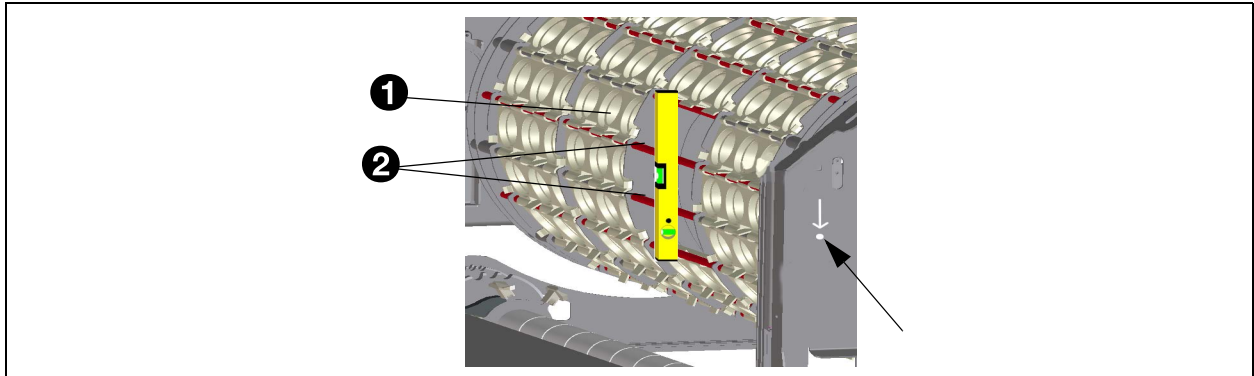
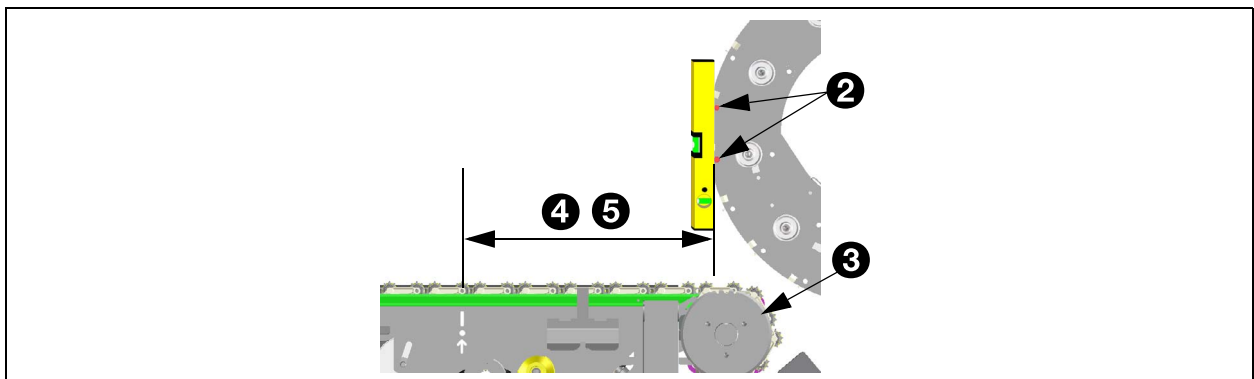

Fig. 66 - Carrier set
Fig. 67 - Distance between roller and shafts
2. Loosen the bolts of the chain-wheels (3). See fig. 67.
4. Adjust the first roller of a double roller so that it is in line with the mark on the side shield. See fig. 67 and fig. 68.
1. Remove three carrier sets(\*) (1) from the MultiDrum™. See paragraph 7.3.1.
- Two shafts (2) are released.
2. Position a water level against the shafts. See fig. 66 and fig. 67. This must be level.
3. Check the first roller of a single roller set (ER) at 364 mm (5) from the shafts, see fig. 67 and fig. 69. With a DR the first roller of a double roller set must be at 360 mm (4). See fig. 67, fig. 68.